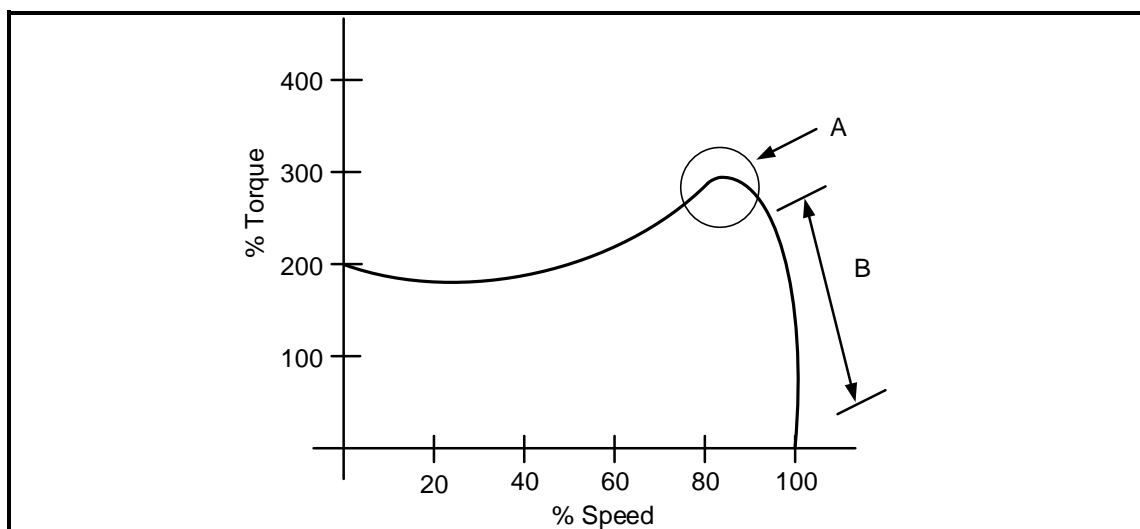

FIGURE 6.11: SPEED-TORQUE CHARACTERISTIC CURVE
6.11 FIGURE 6.11 below shows the characteristic curve of speed versus torque when the VFD is used to control the speed of a three-phase induction motor. Study the characteristic curve and answer the questions that follow.
6.11.2 Describe the *start up and run profile* of the induction motor in FIGURE 6.11. (3)